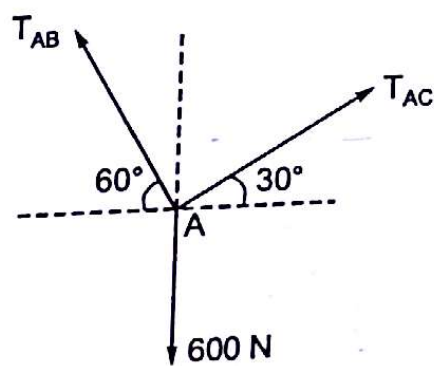

Fig. 3.71
3.18 If point A is in equilibrium under the action of the applied forces, the values of tension τ_{AB} and τ_{AC} are respectively (Fig. 3.71)